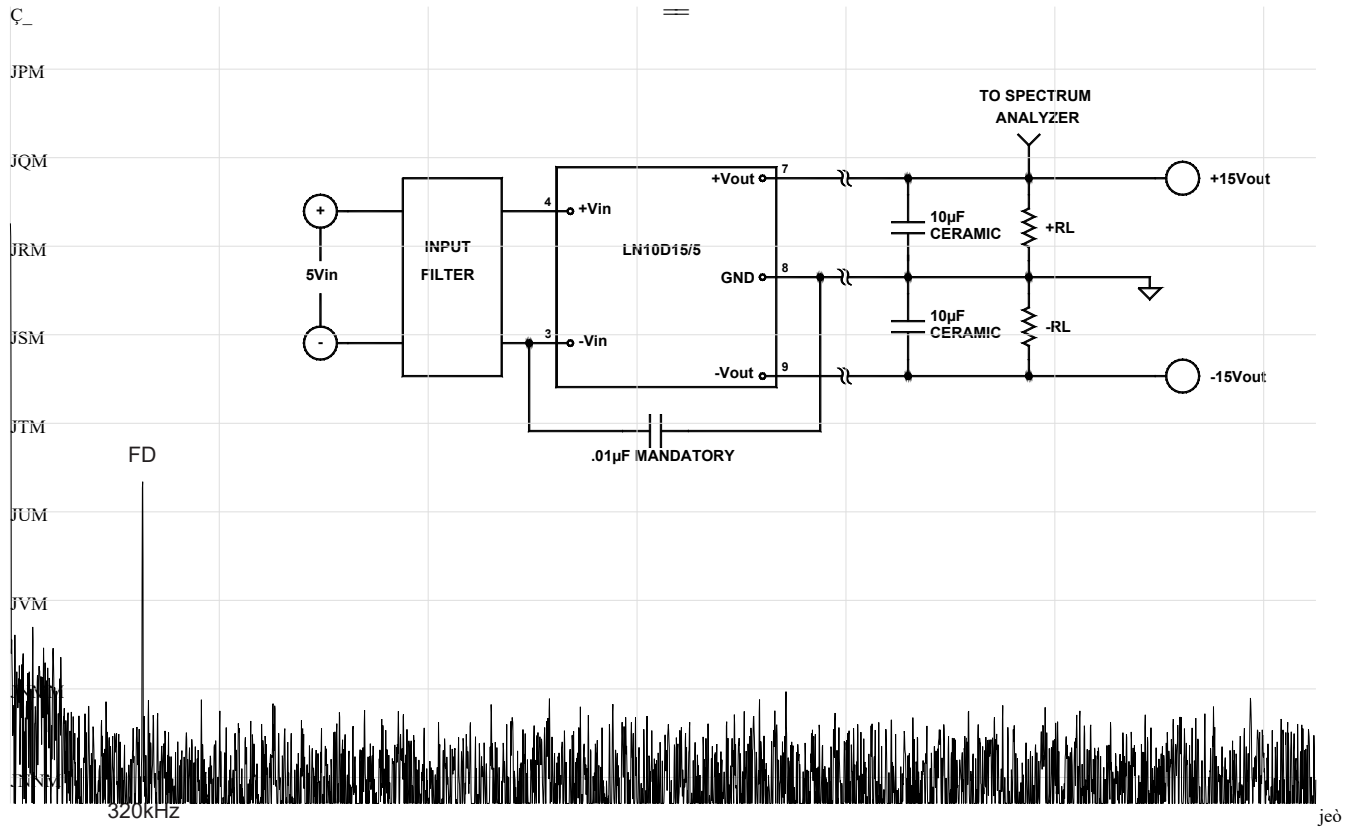

FIGURE 5. Setup and reading for output voltage noise spectrum
- ⁷ Measured without external filter. When the recommended filter is used, a reduction by a factor of 5 or more is achieved. See Figure 5.